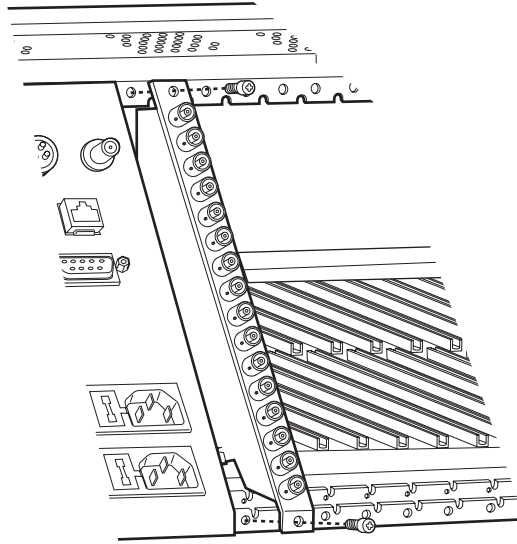

Figure 27. CM9760-RPM Rear Panel Output Card Installation
4. Slide the new card into the card guides of the leftmost slot (refer to Figure 27).